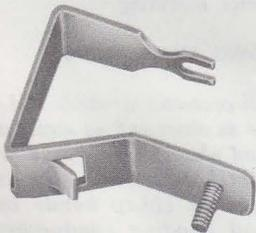

Fig. 30—72A Bracket
- 72A bracket (Fig. 30)—use with 123A1A protectors for indoor location